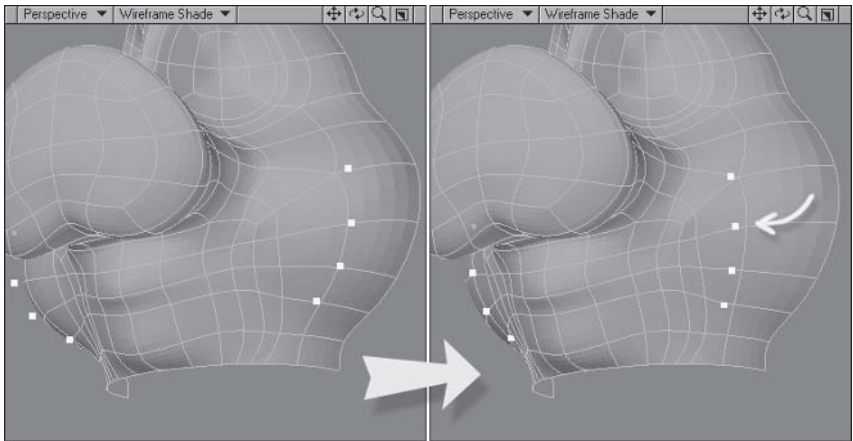

Figure 5.3-31. We want these points closer to the mouth so they have room to move out when the mouth stretches.
9. Select the four points defining the cheek and move them in to match Figure 5.3-31.